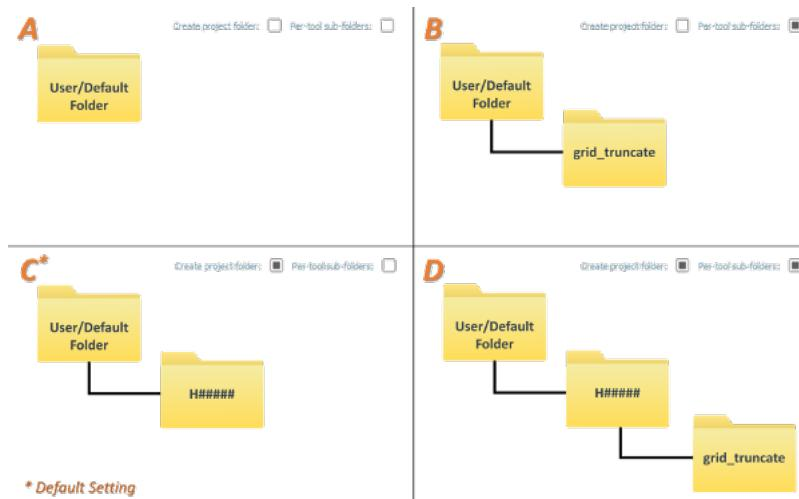

Fig. 2.57: The resulting folder structure based on the four available combinations of output flags.
- No flags set (see Fig. 2.57, pane A). The outputs are stored directly under the default or user-defined location.
- Only the **Per-tool sub-folders** flag set (see Fig. 2.57, pane B). The outputs are stored in a tool-specific sub-folder (in the default or user defined-location).
- Only the **Create project folder** flag set (see Fig. 2.57, pane C). The outputs are stored in a survey folder (in the default or user defined-location). *This is the default setting.*
- Both flags set (see Fig. 2.57, pane D). The outputs are stored in tool-specific sub-folders in a survey folder (in the default or user defined-location).